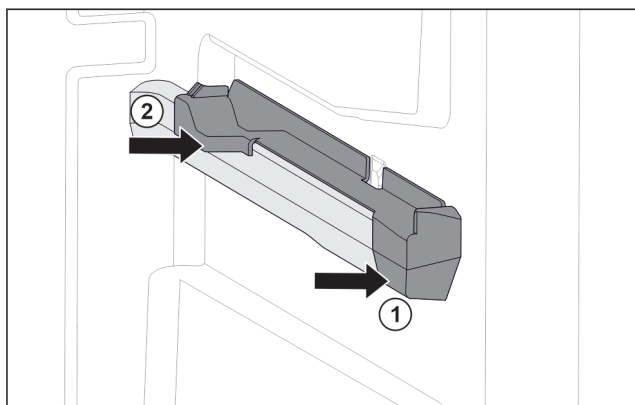

Fig. 114 Attachment on the right moulded rib
- Position attachment on moulded rib at the front. Fig. 114 (1)
- Press on attachment at the back. Fig. 114 (2)